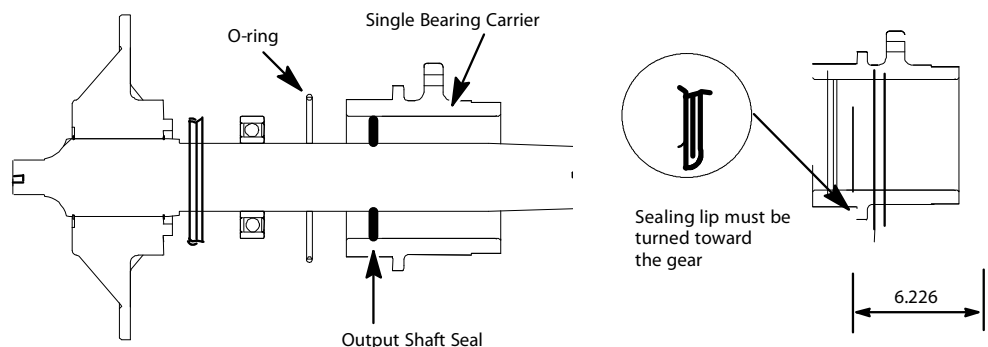

Figure 54 - Output Shaft with O-ring and Seal (machines manufactured after 02/01/03)
- Machines Manufactured After 02/01/03: An output shaft seal is mounted inside the eccentric. See Figure 54, and complete the following steps:
- a. Set the eccentric carrier assembly, with the flange that sits against the machine housing, down on two (2) 2"x 4" blocks.